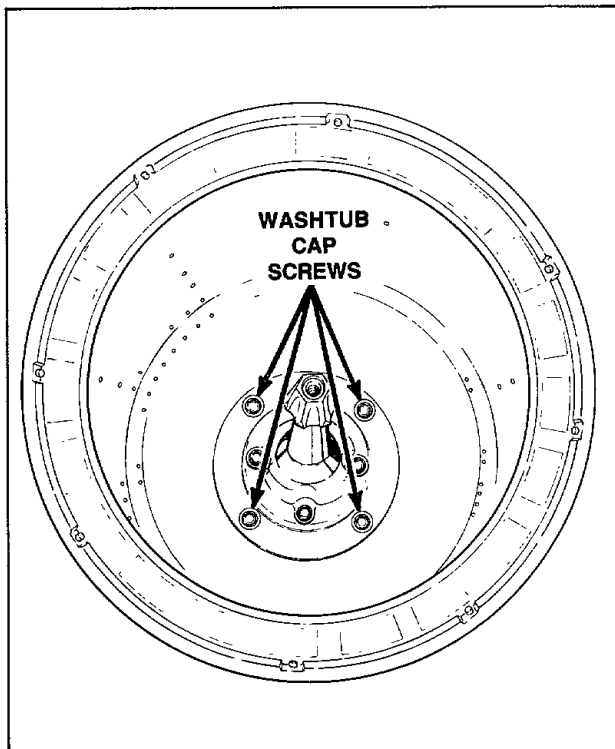

Figure 36
- e. Remove four cap screws and washers holding washtub to hub, *Figure 36*.
- f. Remove the four cap screws holding washtub to hub, *Figure 36*, then lift washtub out of outer tub.